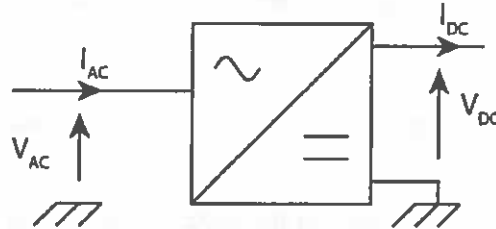

Figure 6.1: Alternate Arm Converter (AAC)
- a) Using the general converter diagram shown in Figure 6.1: